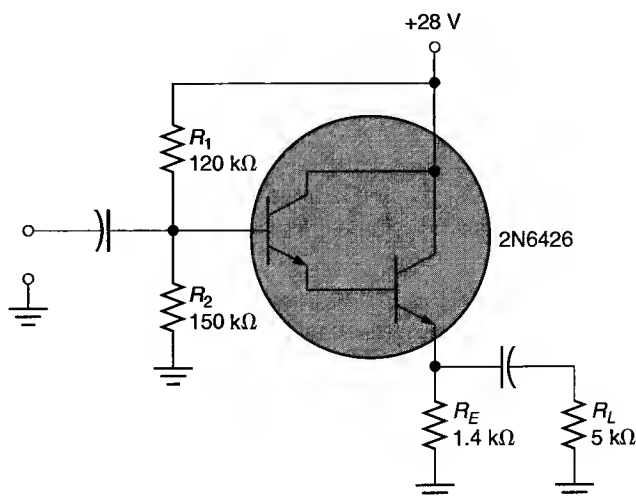

FIGURE 10.36
37. Determine the values of A_v , A_i , A_p , Z_{in} , and Z_{out} for the amplifier in Figure 10.36. The spec sheet for the Darlington transistor is located in Appendix A. Use the “quick” analysis approximations in your analysis.